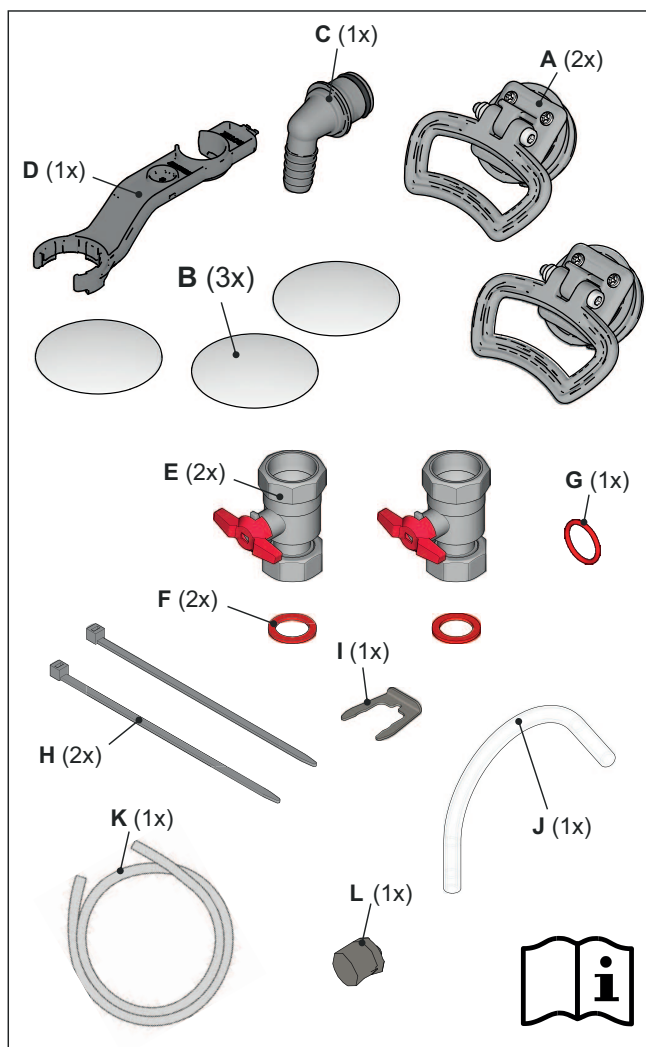

Fig. 4-5 Contents of bag of accessories
- Bag of accessories (see Fig. 4-5),